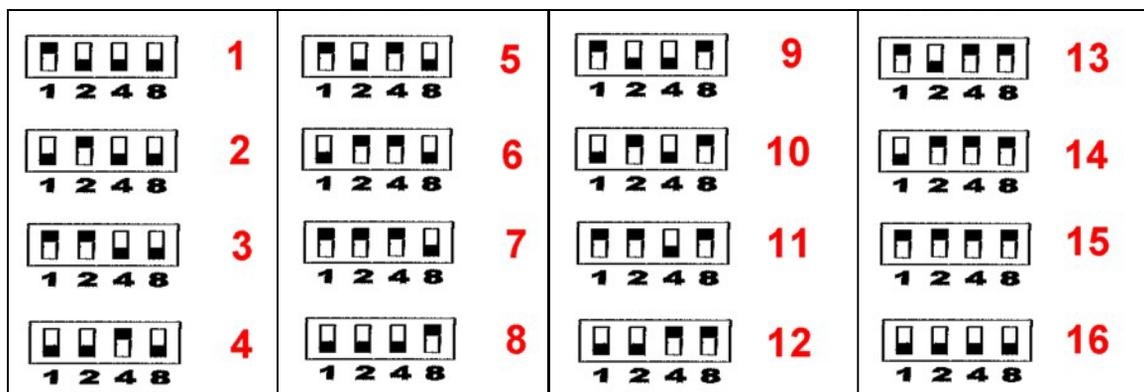

Fig. 18: Compressor Wheel Blade Setting Diagram
2. Set the gauge for your particular compressor wheel. There are 4 dip-switches on the back of the gauge. Set the switches to the correct number of compressor blades based on **figure 18** below. (If you desire to use the sensor to pick up a single magnet or machined flat on a shaft, choose 1 blade, or 2 blades if there are 2 magnets or flats, etc.). See **figure 17** for example setting for 12 blades. Disregard the "8-6-4" above the dip switches.